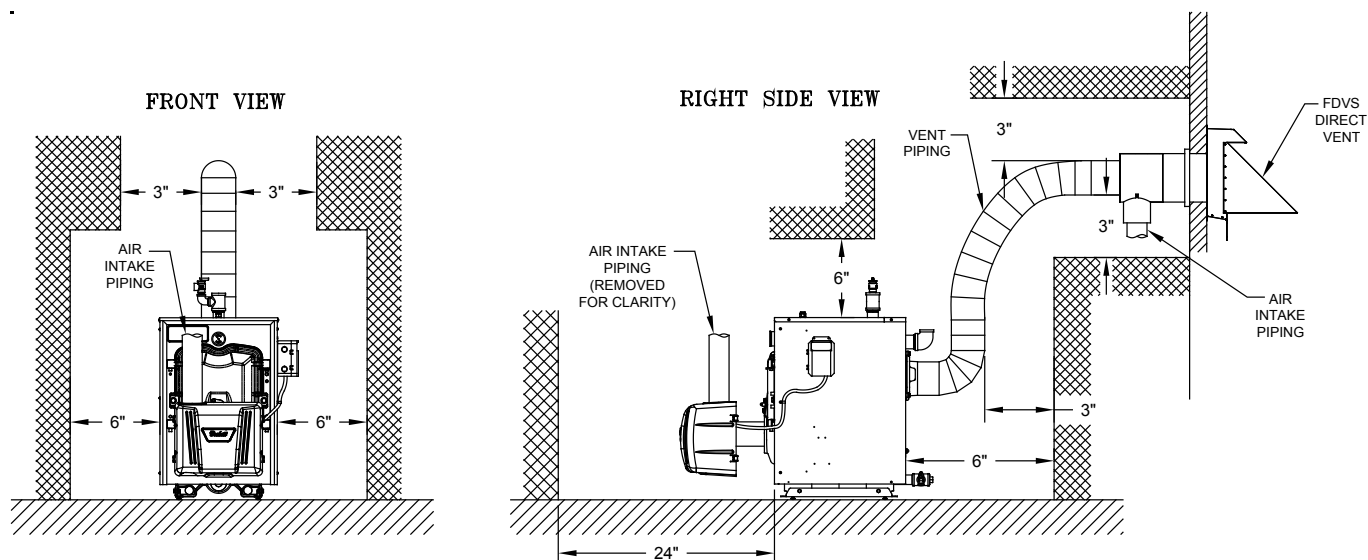

Figure 2B: Direct Vent - Minimum Installation Clearances To Combustible Materials (Inches)
- 24" for rear smoke box cleaning and disconnecting vent pipe from boiler adaptor for servicing (if required) - **Direct Vent** (see Figures 2B and 25).